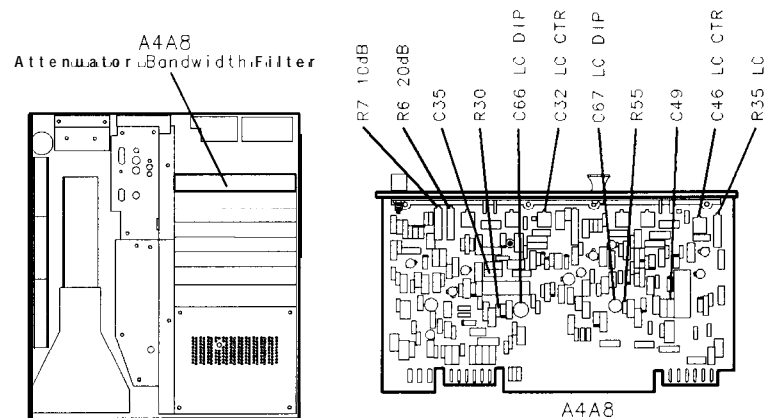

Figure 3-43.
30. Adjust A4A8C32 LC CTR and A4A8C46 LC CTR for maximum MARKER level as indicated by CRT annotation. See Figure 3-43 for location of adjustments. If unable to adjust A4A8C32 and A4A8C46 LC CTR adjustments for satisfactory signal amplitude, increase or decrease value of A4A8C35 and A4A8C49. Refer to Table 3-3 for range of values.
34. Adjust **A4A8R35** LC to align markers on display. **MARKER A** level should indicate 1.00 X. See Figure 3-43 for location of adjustment.
61. Adjust A4A8C66 LC DIP for minimum amplitude of signal peak. See Figure 3-43 for location of adjustment. Key in (PEAK SEARCH) MARKER (Δ), and adjust LC DIP again to offset the signal peak
63. Adjust A4A8C67 LC DIP for minimum amplitude of signal peak. See Figure 3-43 for location of adjustment. Key in PEAK SEARCH MARKER Δ, and adjust LC DIP again to offset the signal peak approximately -17 kHz (to the left). If unable to achieve a “dip” in signal amplitude, increase or decrease value of A4A8R55. Refer to Table 3-3 for range of values.
72. Adjust A4A8R7 AIOdB to align markers on display. MARKER A level should indicate 0.00 dB. See Figure 3-43 for location of adjustment.
74. Adjust A4A8R6 A20dB to align markers on display. MARKER A level should indicate 0.00 dB. See Figure 3-43 for location of adjustment.